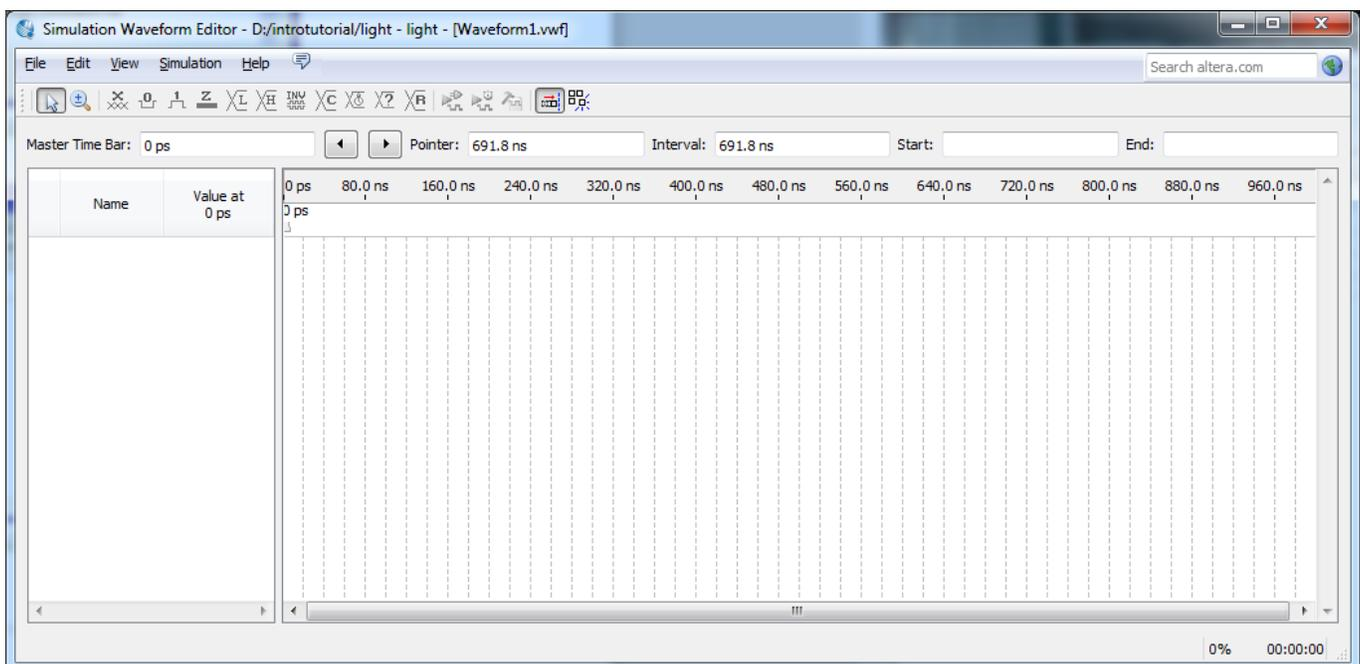
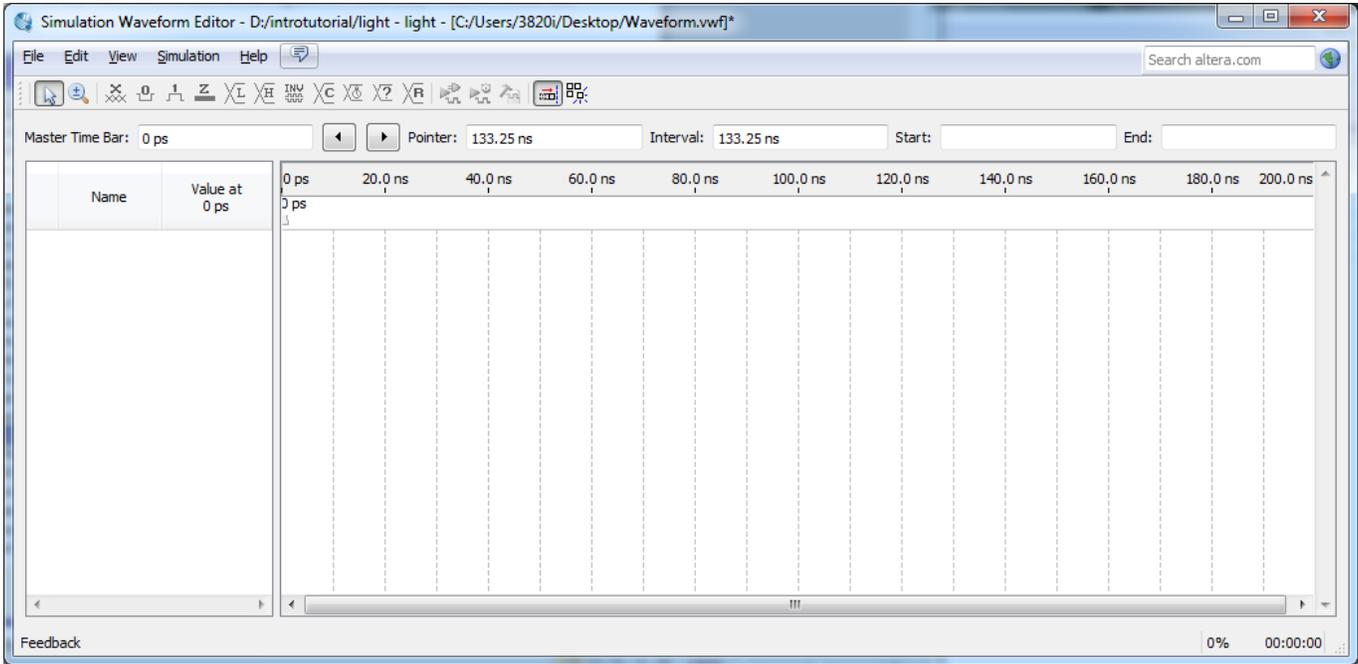

Figure 24. The Waveform Editor window.
Figure 25. The augmented Waveform Editor window.
- ii). The Waveform Editor window is depicted in Figure 24. Save the file under the name *light.vwf*; note that this changes the name in the displayed window. Set the desired simulation to run from 0 to 200 ns by selecting **Edit > End Time** and entering 200 ns in the dialog box that pops up. Selecting **View > Fit in Window** displays the entire simulation range of 0 to 200 ns in the window, as shown in Figure 25. You may wish to resize the window to its maximum size.